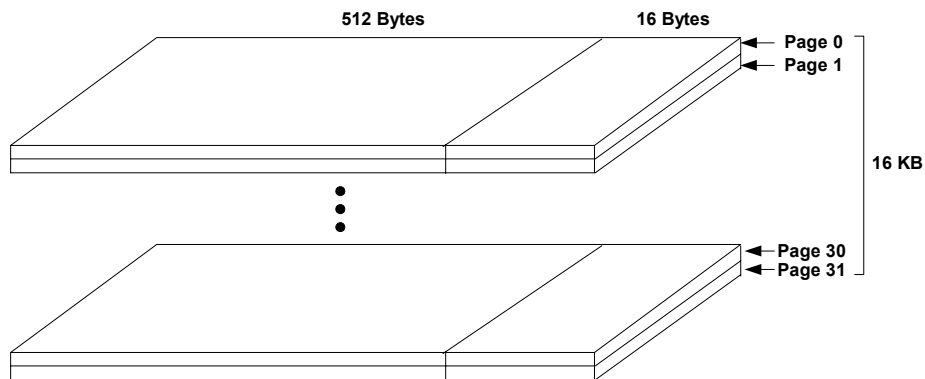

Figure 10: Block Structure
- **Block** – Each block contains 32 pages (total of 16KB), as shown in Figure 10. A block is the minimal unit that can be erased, and is sometimes referred to as an erase block.